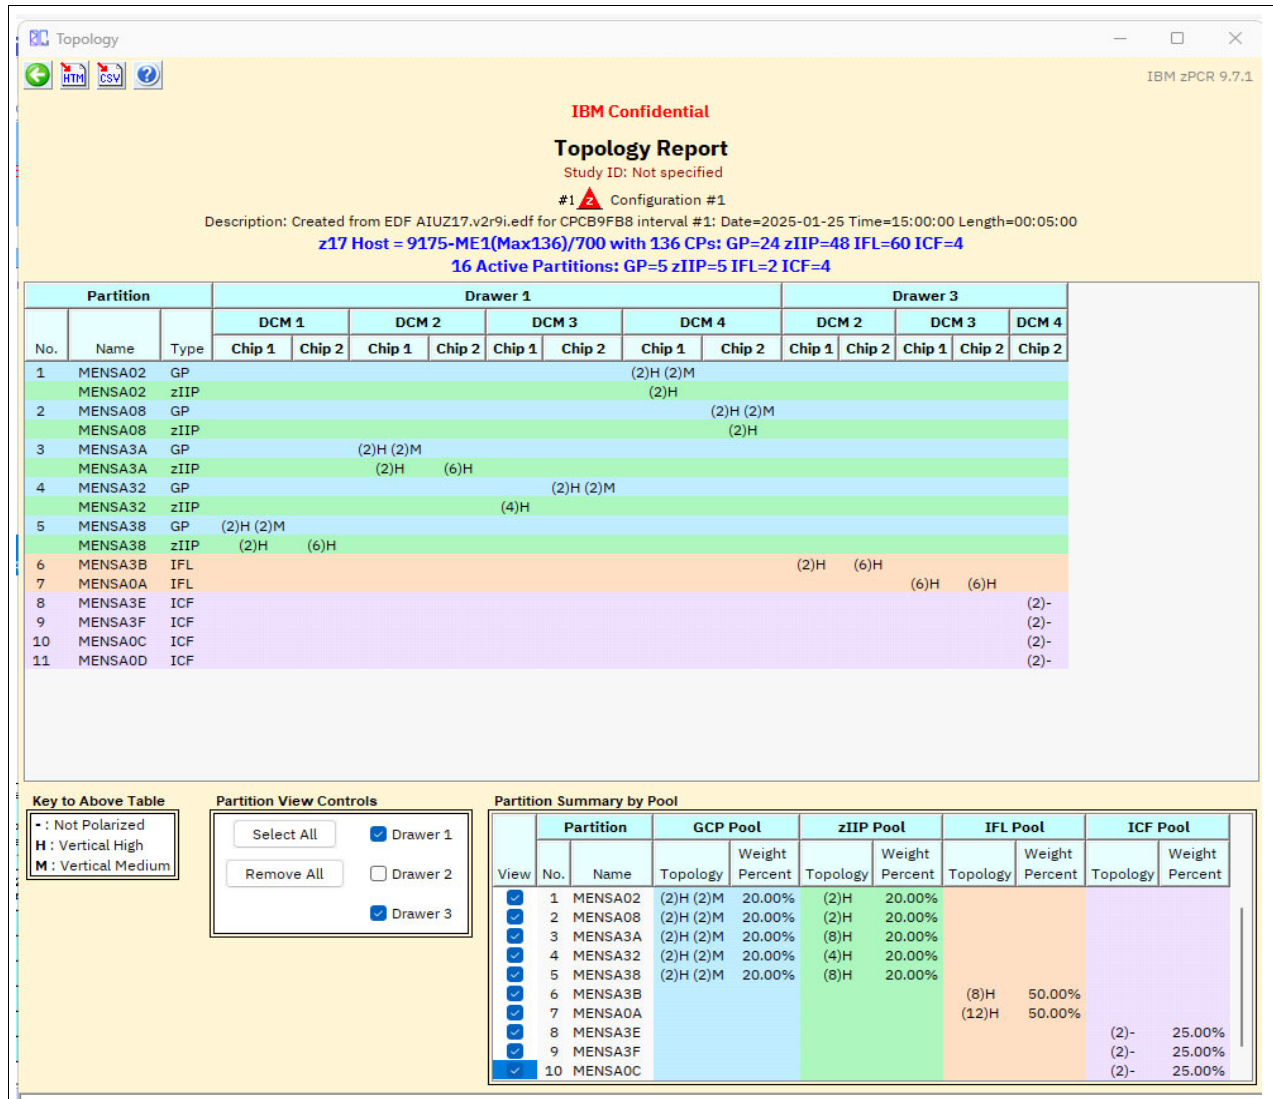

Figure 12-10 IBM zPCR Topology report example
See Figure 12-10 on page 507.
The IBM zPCR topology report is shown in Figure 12-10 on page 507, where:
**Note:** The Topology report in Figure 12-10 on page 507 is showing all active partitions. Information about a specific partition can be obtained by clicking on the “Remove all” button to the left of the Partition Totals by Pool table at the bottom right and then clicking on the “View” check-box for a specific partition.